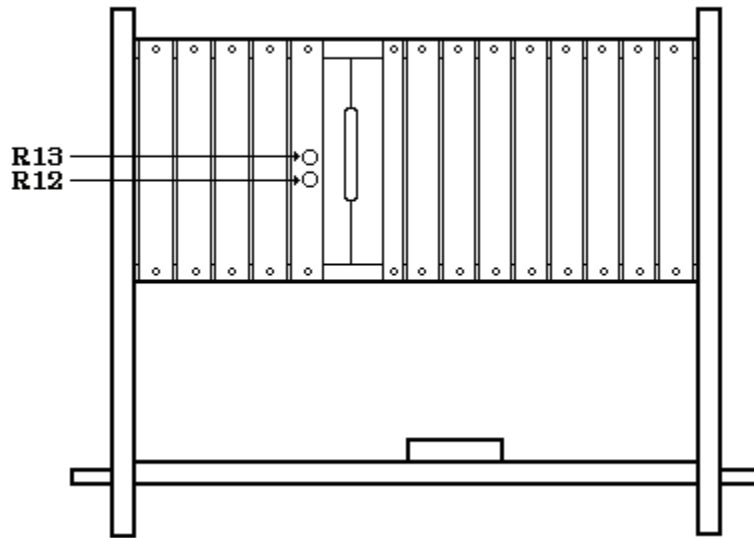
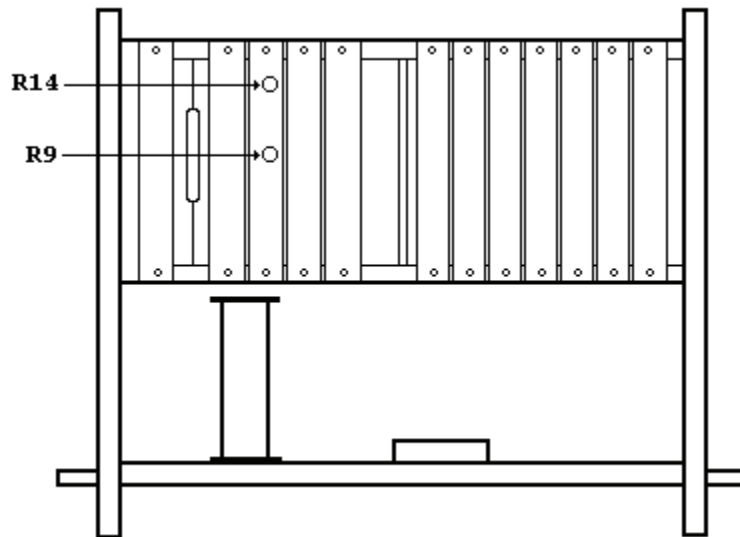

Figure 1. Tracor Model 527E top view.
Figure 2. Hickok Model FDM 2100 top view.
(1) Adjust R12 (fig. 1) (R9 (fig. 2)) until TI indicates +9 (R).
(2) Adjust R13 (fig. 1) (R14 (fig. 2)) until TI indicates +9 (R).